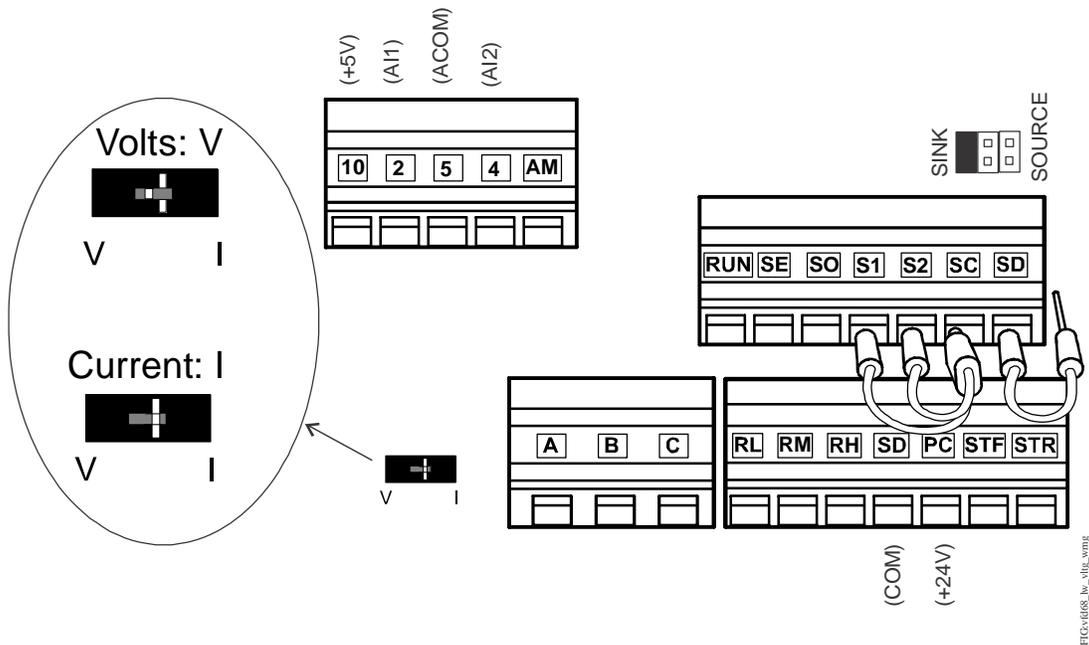

Figure 39: VFD68 Setup and Low-Voltage Connections
Verify that the VFD68 is in PU mode with no jumper between SD and STF (Figure 39 on page 56).
1. Verify that the jumper above terminal **SC** (Figure 39) is set to **SINK**.
2. Verify that the AI2 mode switch to the left of terminal **A** (Figure 39) is set to **V** for applications with 0–5 V or 0–10 V voltage input or set to **I** for applications with 4–20 mA current input.